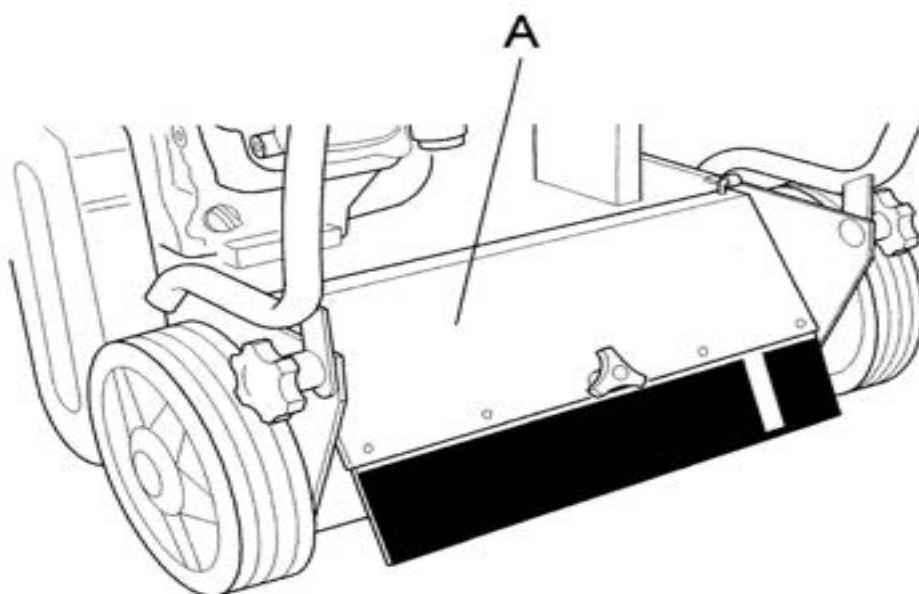
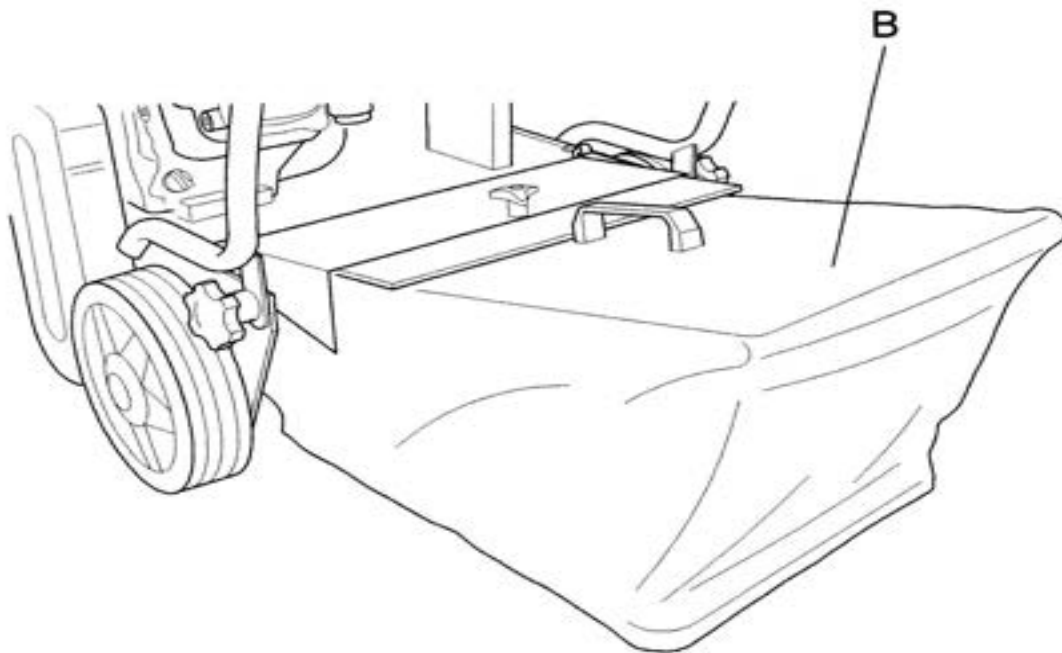

Figure 3
Figure 4
- The rear guard must always be closed while the machine is in use or open only if the scarifier is equipped with the special basket (Fig. 3,ref.A and Fig. 4, ref.B).
Use of the rear guard open (Fig. 3 Ref. A) is permissible only when the collection basket is inserted in the special housing.(Fig.4, ref.B)
2. Before engaging blade movement using the relative lever (figure 1, ref. A) the rear guard (fig. 3, ref. A) must be fully lowered or the special basket must be inserted (fig. 4, ref.B) to prevent the outward projection of objects.
2. Open the rear housing (Fig. 3 ref. A).